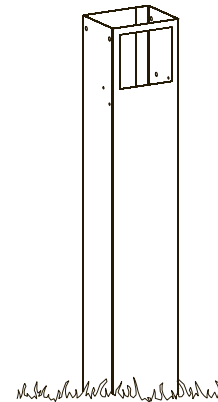

FIGURE 1
- The rectangular cut-out is located near the TOP of the post and should be above ground after installation. Figure 1.